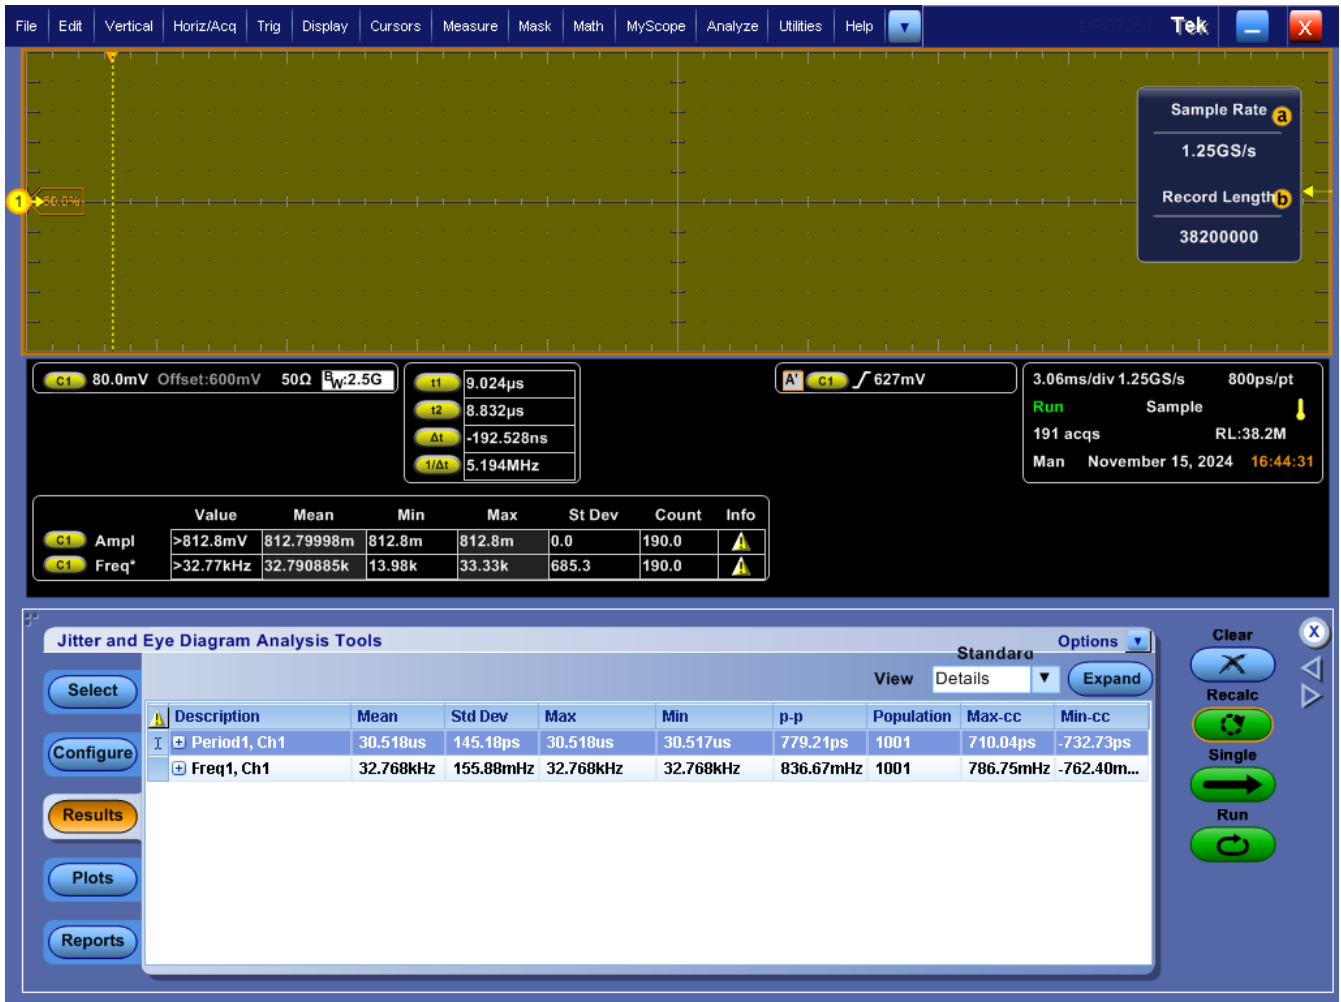

Figure 6. 32k Divider Mode with 24.576MHz Input Reference
- Figure 6. 32k Divider Mode with 24.576MHz Input Reference6
Cycle-to-cycle jitter is 732.7ps (see Figure 6).